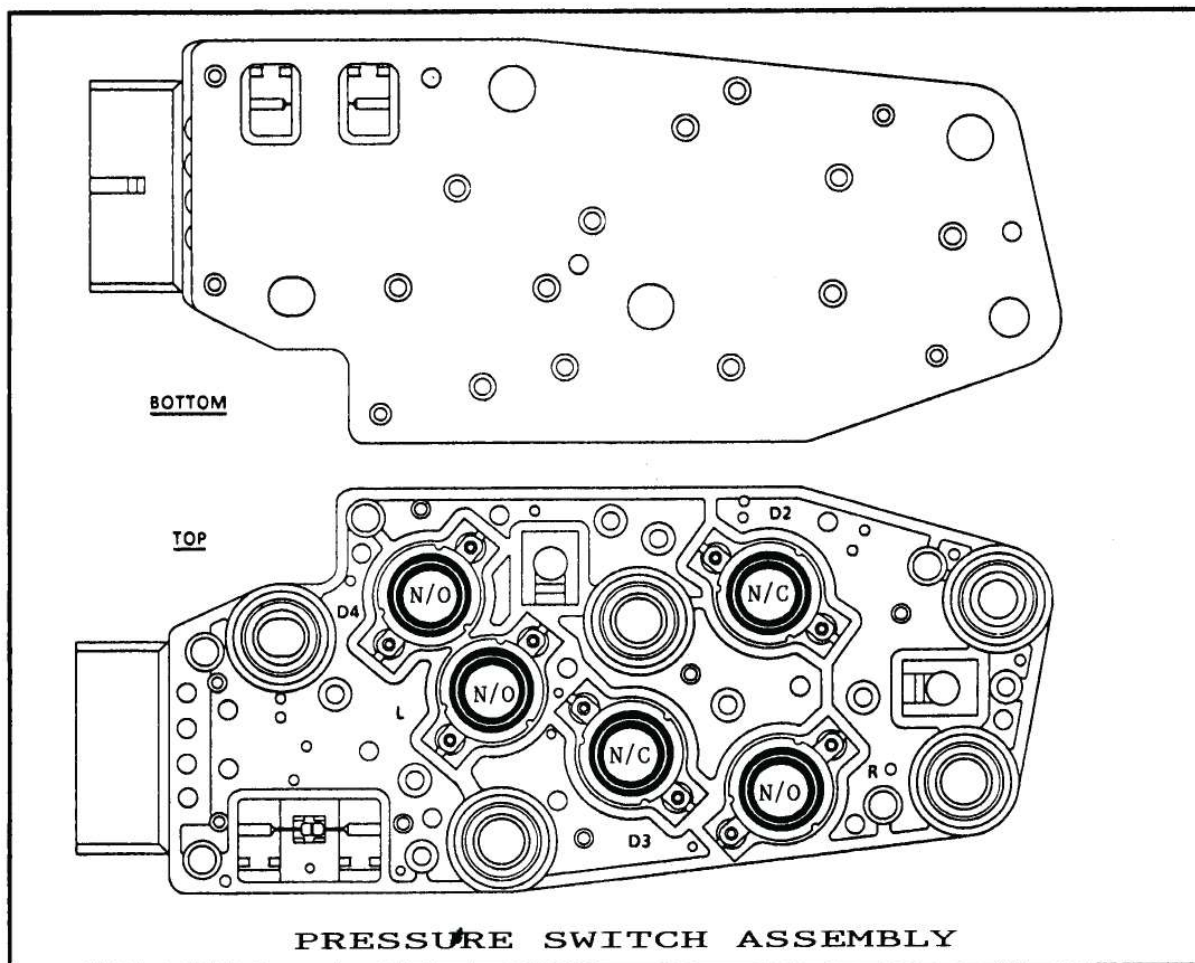

Figure 155
1. Two of the five switches in the pressure switch assembly are normally closed (N/C), and the other three are normally open (N/O), as shown in Figure 155.
3. Place the ohmmeter leads on the pins on each side of the D4 switch (N/O). No tone should be heard (Figure 155)
8. Refer to Figure 155.